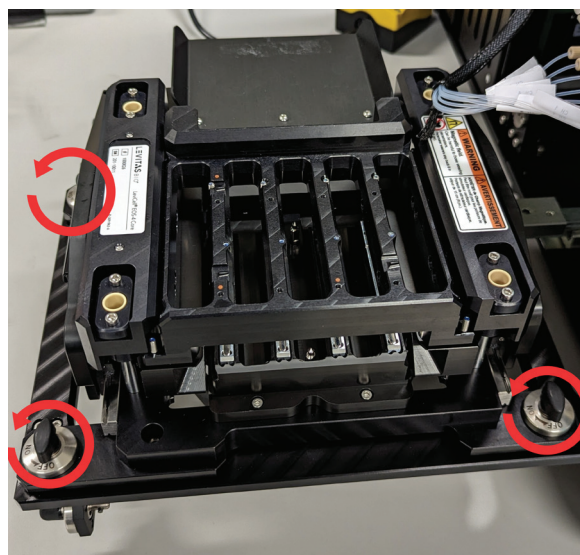

Figure 106.
12. With the entire core now accessible, locate the 3 remaining cradle locks (Figure 106) and unlock by switching to the OFF position